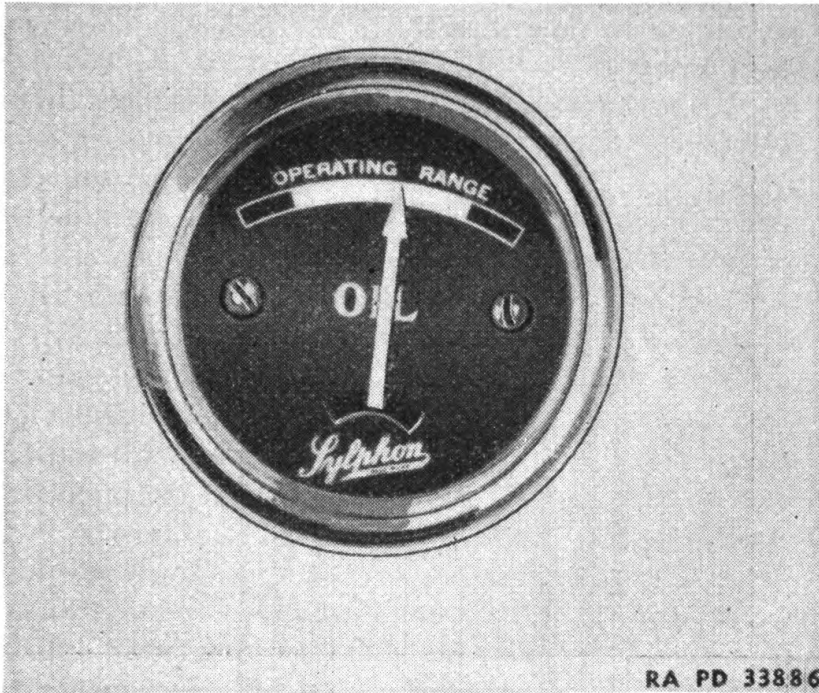

FIGURE 46.—Oil pressure gage.
f. The oil pressure with the engine operating at normal load and operating temperature is about 30 pounds. This pressure brings the gage needle (fig. 46) approximately midway across the pressure scale